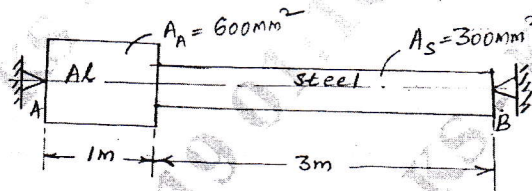

Fig.Q2(b)
- b. A composite bar is rigidly fitted at the supports A and B as shown in Fig.Q2(b). Determine the reactions at the supports when temperature rises by 20°. Take $E_A = 70$ GPa, $E_S = 200$ GPa, $\alpha_A = 11 \times 10^{-6}/^\circ\text{C}$ and $\alpha_S = 12 \times 10^{-6}/^\circ\text{C}$.